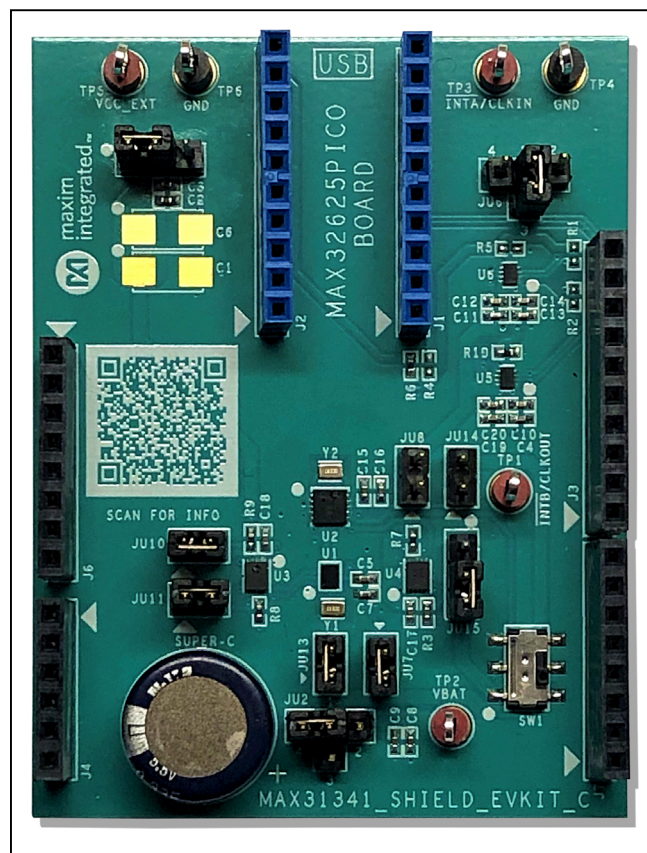
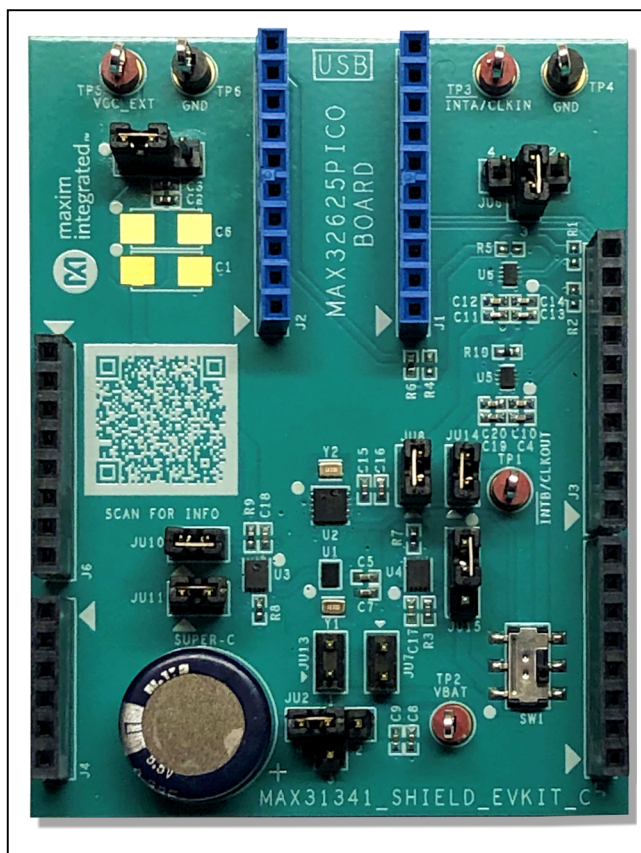

Figure 1a. WLP\_Jumper Setting
Figure 1b. TDFN\_Jumper Setting
- 2) Set the jumpers to their default positions, as shown in Figure 1a for testing the WLP IC and Figure 1b for testing the TDFN IC.